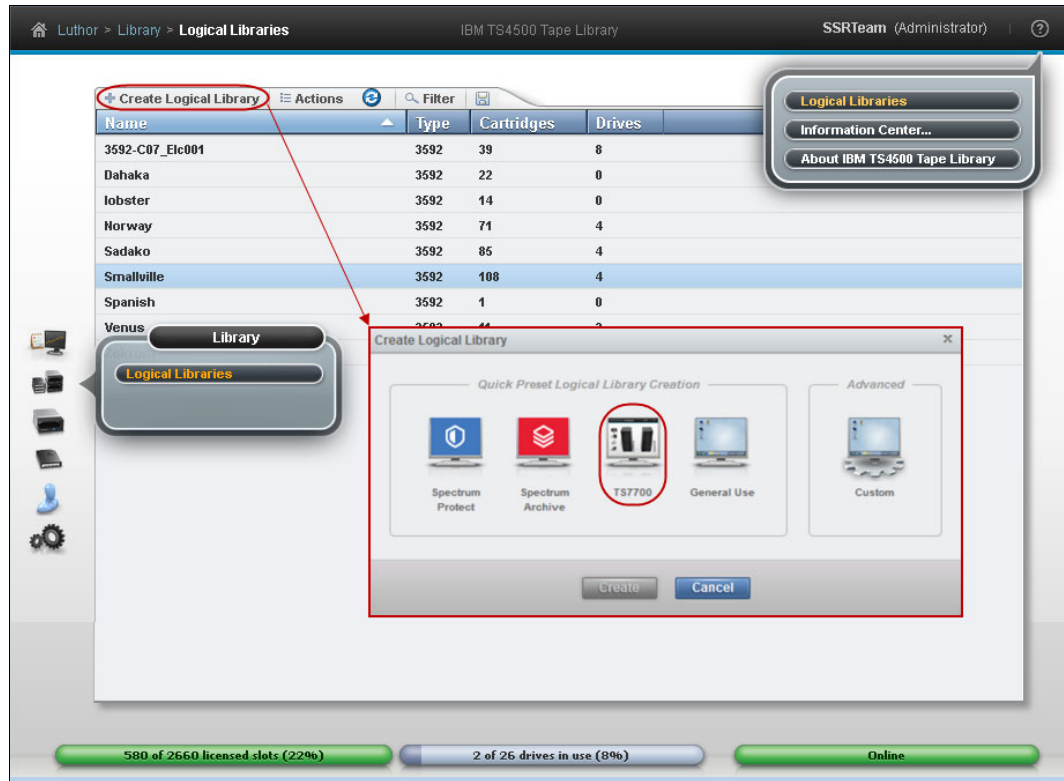

Figure 9-85 TS4500 create logical library page
1. From the initial page of the TS4500 GUI, select **Library Icon** and click **logical library** (see Figure 9-85).
2. Use the **Create Logical Library** option (see Figure 9-85) to complete the task.
Notice that the TS4500 GUI features selected presets, which helps in the setup of the new logical library. For the TS7700 library, use the TS7700 option that is highlighted in Figure 9-85. This option uses the 3592 tape drives that are not assigned to any existent logical library within the TS4500 tape library. Also, it selects up to four drives as control paths, distributing them in two separate frames, when this is possible.